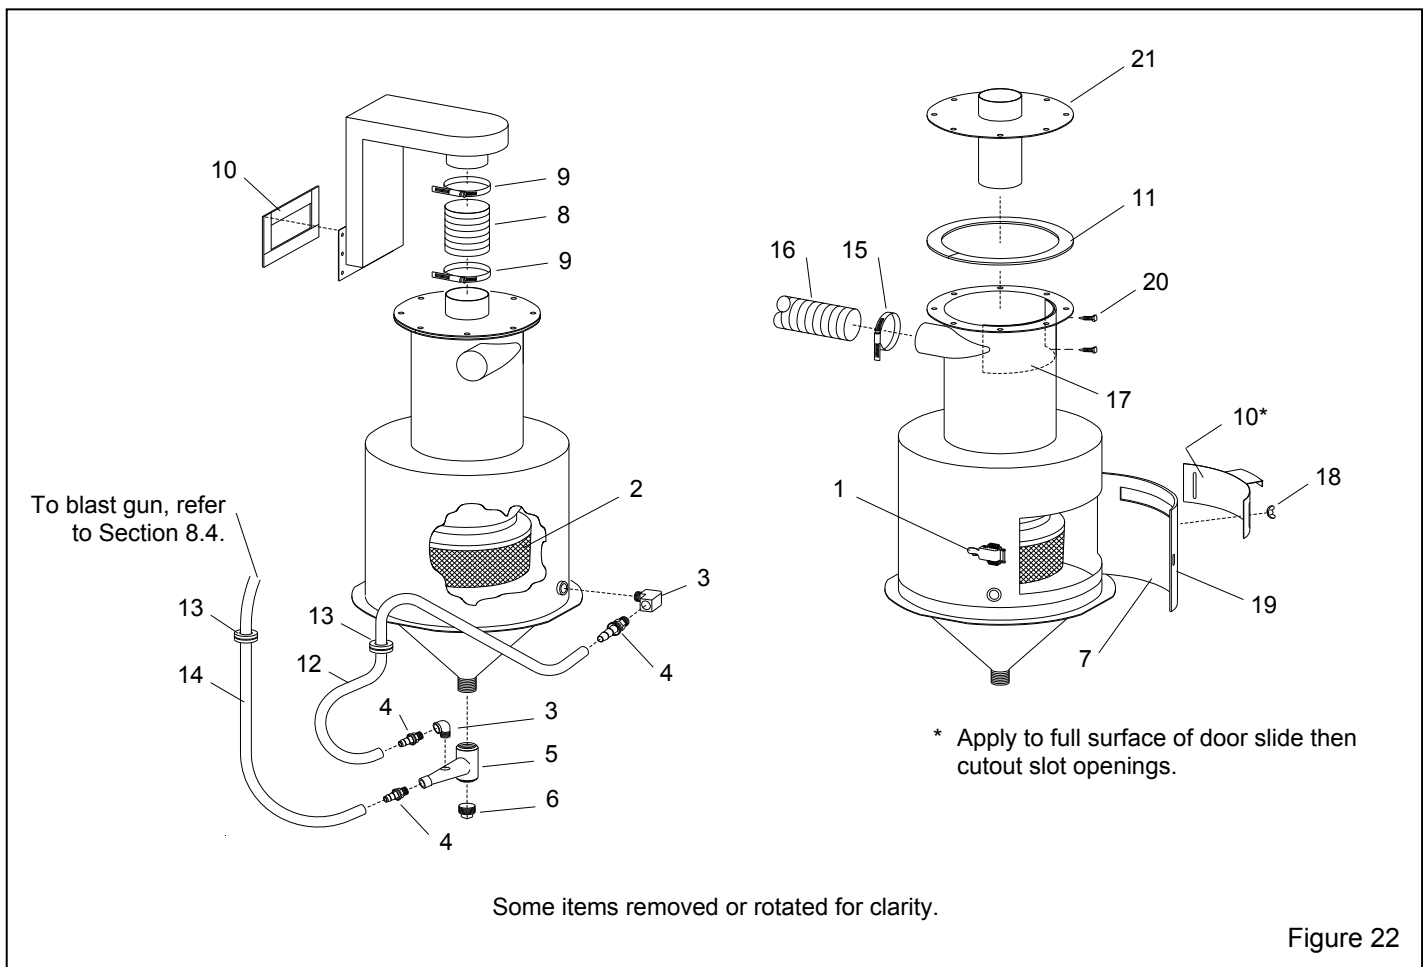

Figure 22
8.5 Reclaimer Assembly – Figure 22